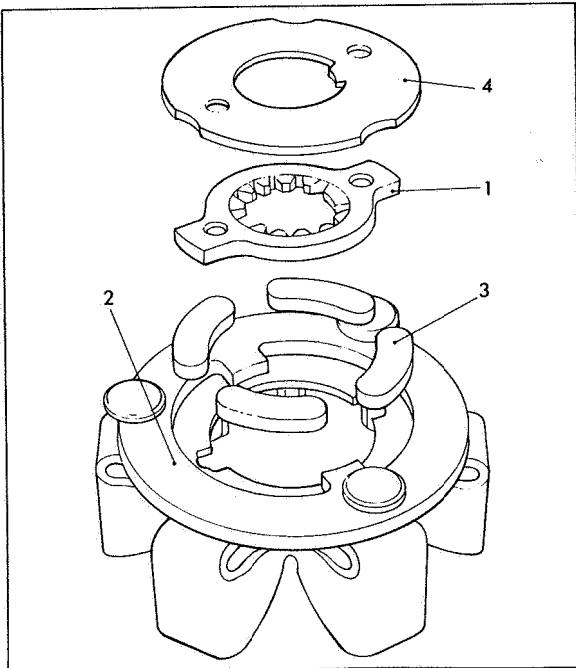

Fig 81 Assembling governor weight retainer
Assemble cush drive splined hub (1) Fig 81 small diameter end downwards, into cush drive retainer (2) and align holes with cut-outs in retainer. Assemble cush drive rubber inserts (3). Position cush drive back plate (4) so that the three notches slide over the three rivet heads, then rotate plate until the internal lip aligns with the lip on the cush drive splined hub.